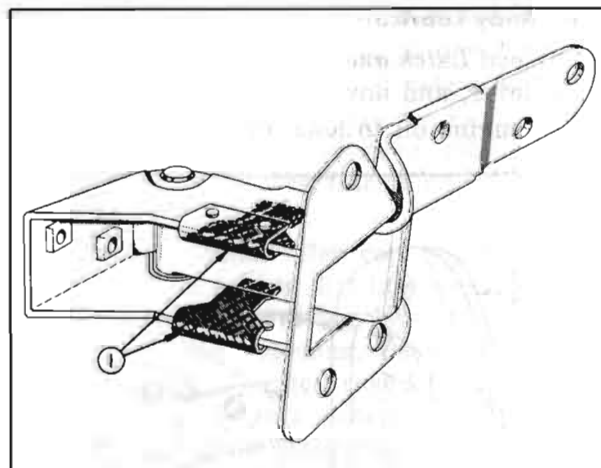
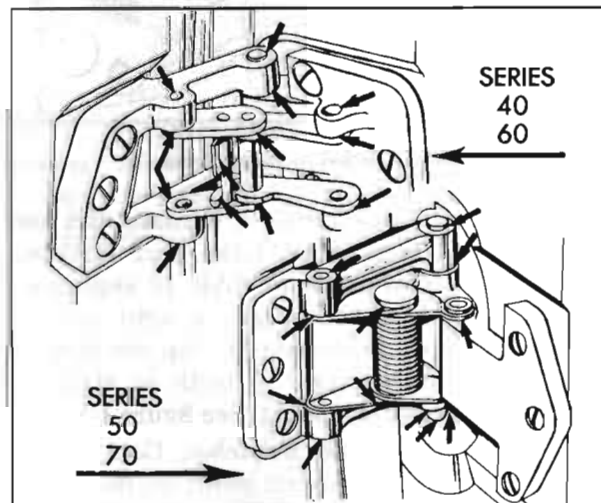

Figure 1-12—Door Hinge Hold-Open Springs
Figure 1-13—Rear Door Lower Hinge
6. *Door Checks and Hinges.* Apply Lubriplate to hold-open springs in front door hinges per figure 1-12. Apply lubriplate solution (*) to rear door lower hinges at pivot points indicated by arrows in figure 1-13.